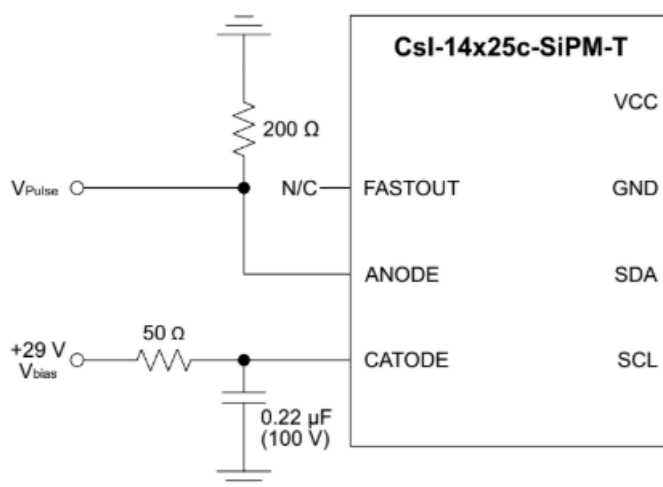

Figure 4: Diagram for the Csl detector circuit.
3. The detector diagram (Figure 4) shows the pins you will need. You will use two connections: CATHODE (bias voltage) and ANODE (signal output).